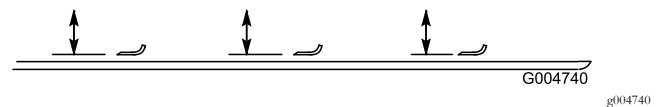

Figure 82
- Rotate the blade until the ends face forward and backward (Figure 82). Measure from the inside of the cutting unit to the cutting edge at the front of the blade. Remember this dimension.